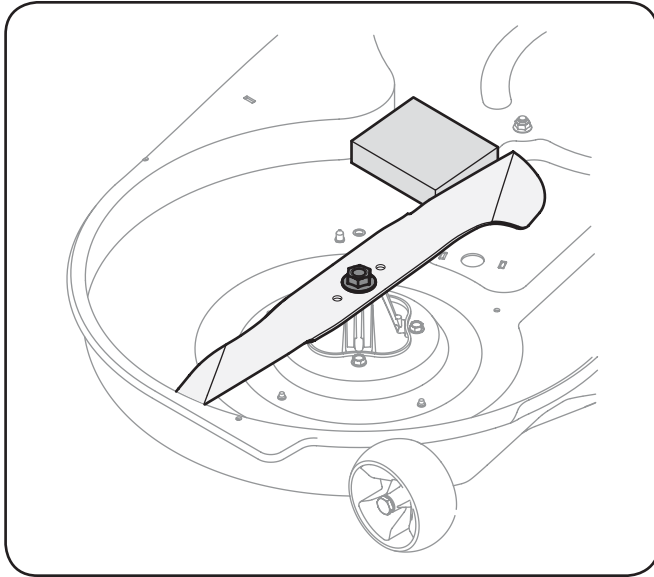

Figure 7-5
2. Place a block of wood between the center deck housing baffle and the cutting blade to act as a stabilizer. See Fig. 7-5.
3. Remove the hex flange nut that secures the blade to the spindle assembly. See Fig. 7-5.